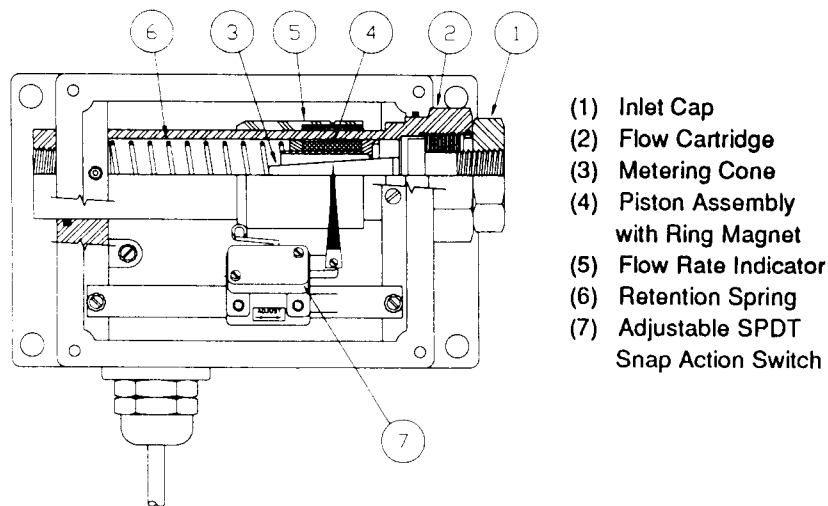

Figure 3-1. Parts Diagram
3.1 PRINCIPLE OF OPERATION (Refer to Figure 3-1)